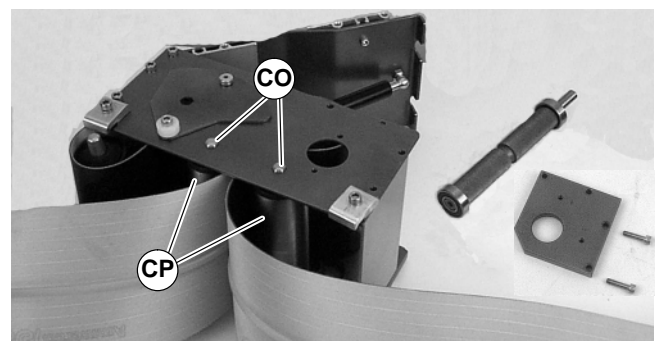

Figure 38
- For 5” (127 mm) or wider conveyor, depress both sides of each spring-loaded shaft (CO of Figure 38). Remove pulleys (CP).